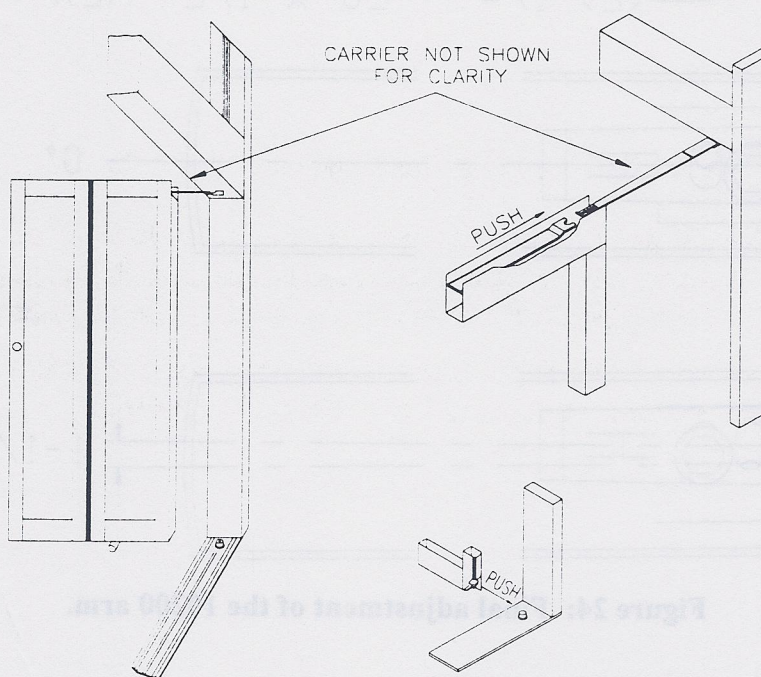

Figure 23: Installing the door on the snap-in pivots.
1. The installation of the door is the same “snap-in” arrangement that Dor-O-Matic has used for several years. As shown in Figure 23, keeping the door “straight” (un-folded), line up the door with the top arm. Making sure the arm is in the top channel of the door and the roller is in the carrier channel, gently slide the door up against the lower pivot.